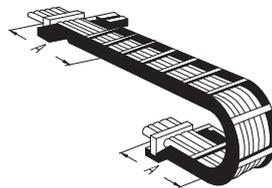

Fig. 1
8. Fasten the cables on both ends of the chain (→ Fig. 1).